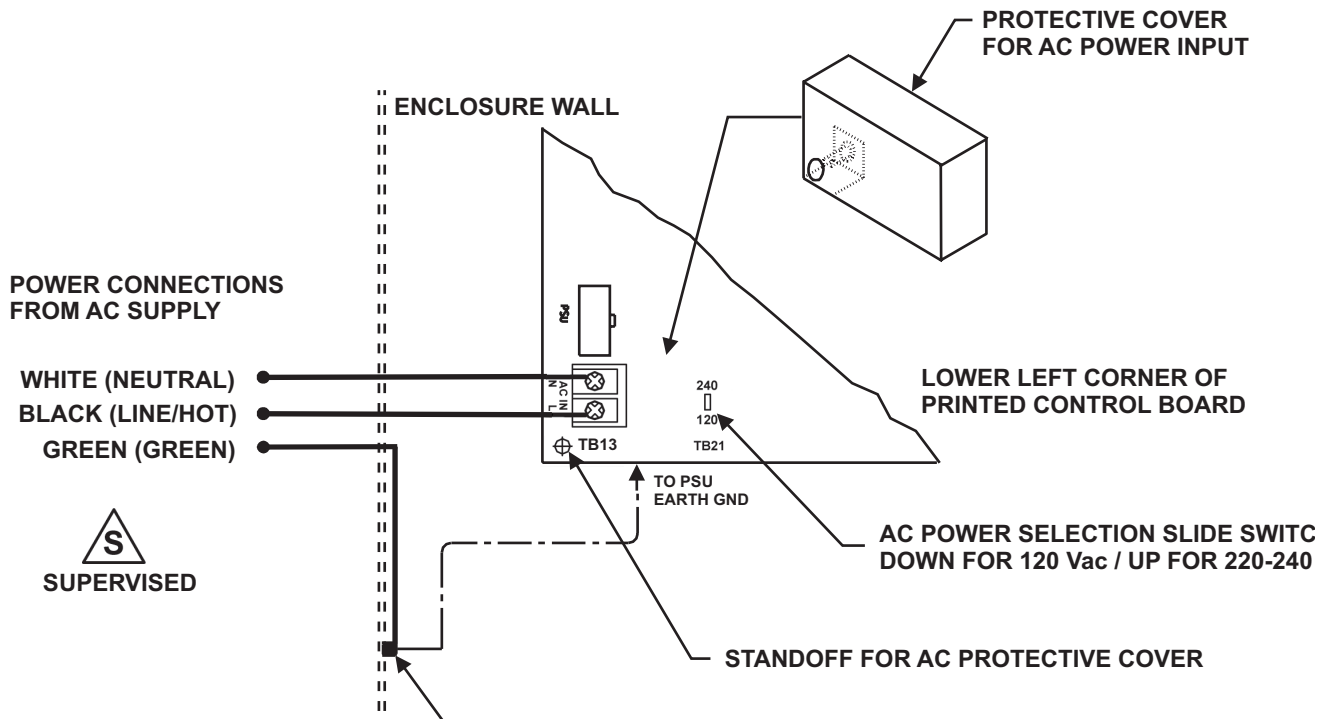

Figure 2-10. Primary Power Connections
4. To install the Protective Cover for AC Power input, fold along scored lines as shown in Figure 2-10.